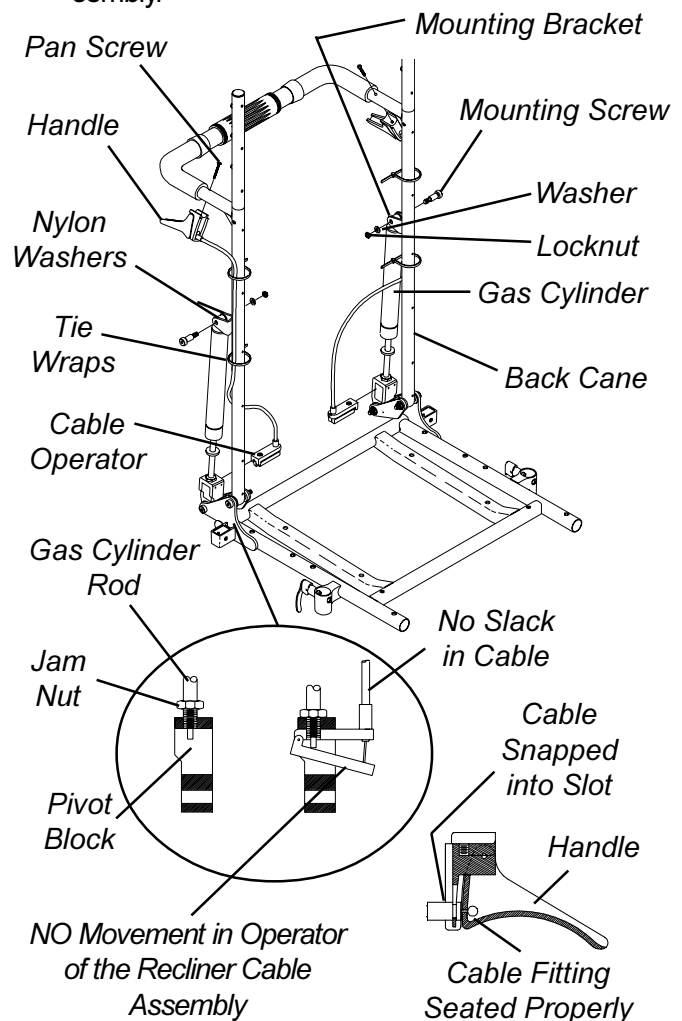

FIGURE 3 - REPLACING RECLINER CABLE ASSEMBLIES
**REPLACING RECLINER CABLE ASSEMBLIES (FIGURE 3)**